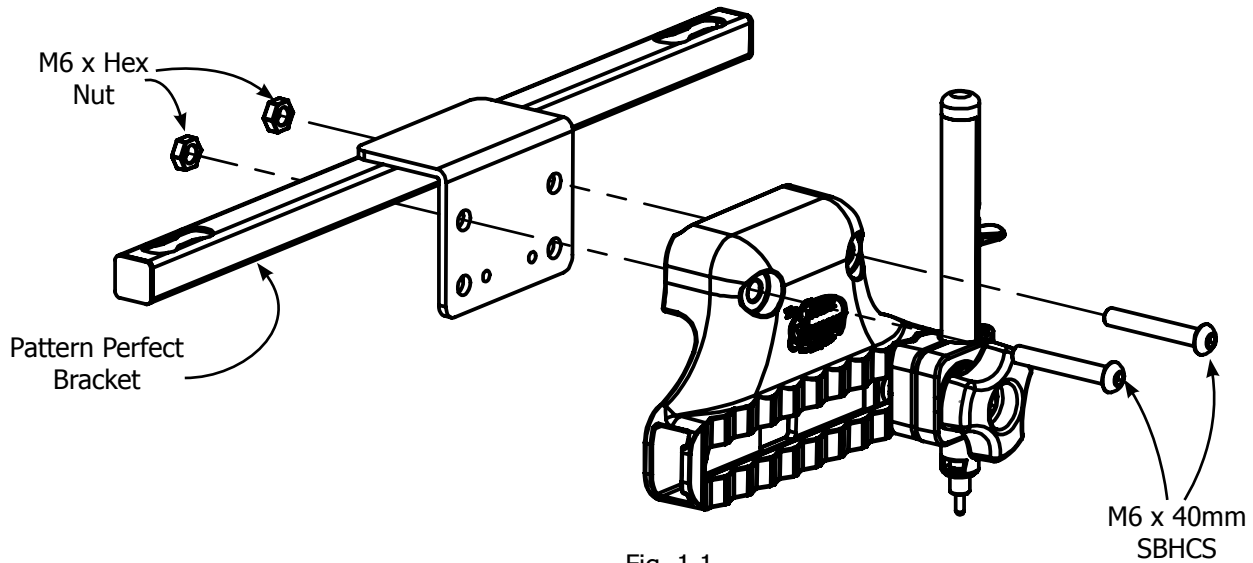

Fig. 1.1
Step 1: Set up your Pattern Perfect Bracket as shown in Fig. 1.1.